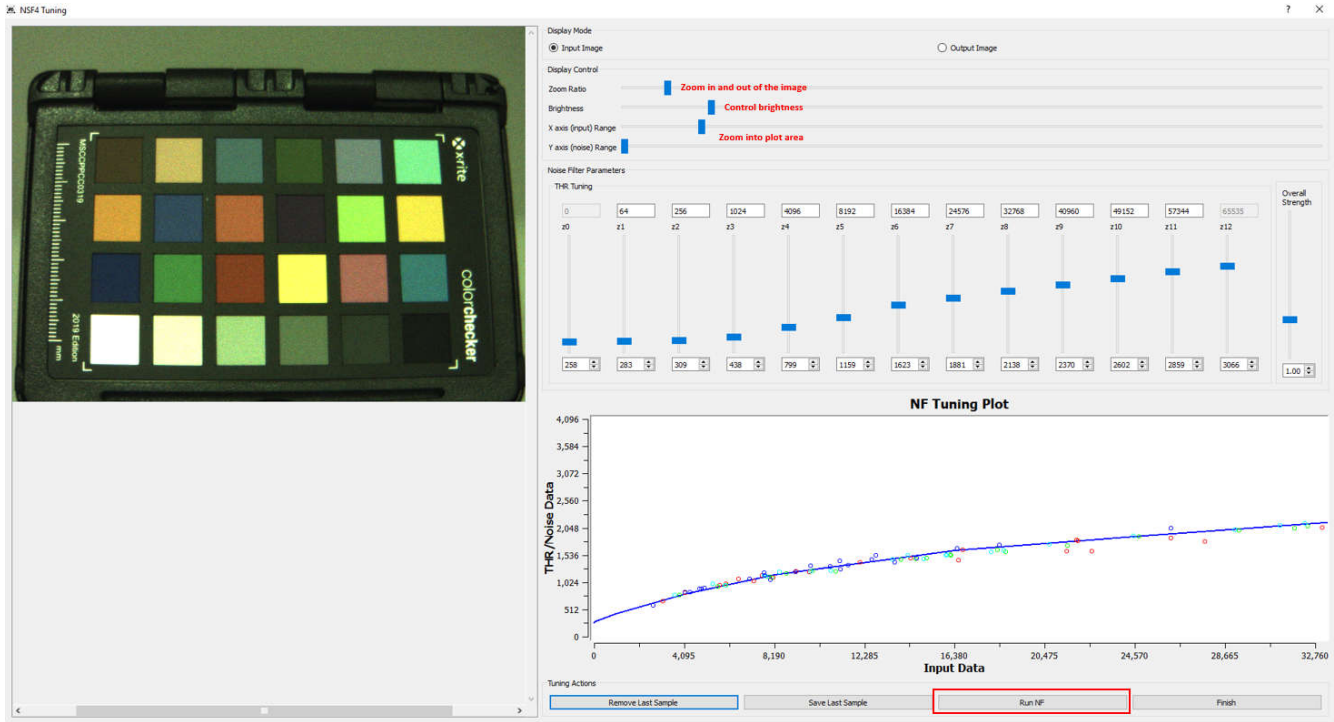

Figure 8-4. NSF4 Tuning GUI
- Process the plug-in to switch to the NSF4 tuning GUI. Figure 8-4 shows the NSF4 tuning GUI and details of each control
- The noise chart *NF Tuning Plot* displays the noise samples as small circles. The blue line curve is plotted according to the current X and Y THR values set in *THR Tuning*. Manually adjust the THR (Y) values by moving the sliding bars or by typing in numbers such that the noise sample circles and blue curve match.